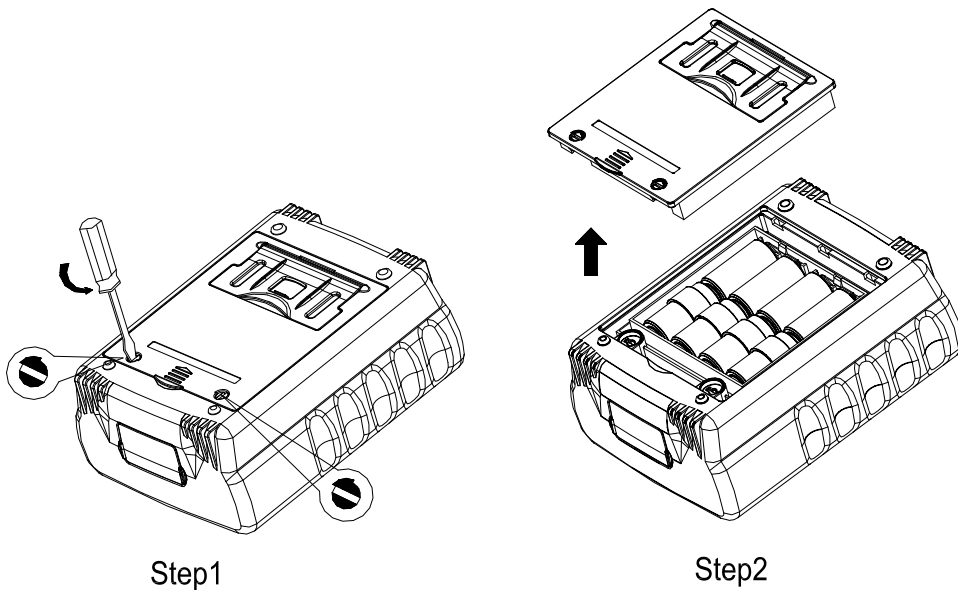

Figure 9
9. Battery replacement (As shown in Figure 9)